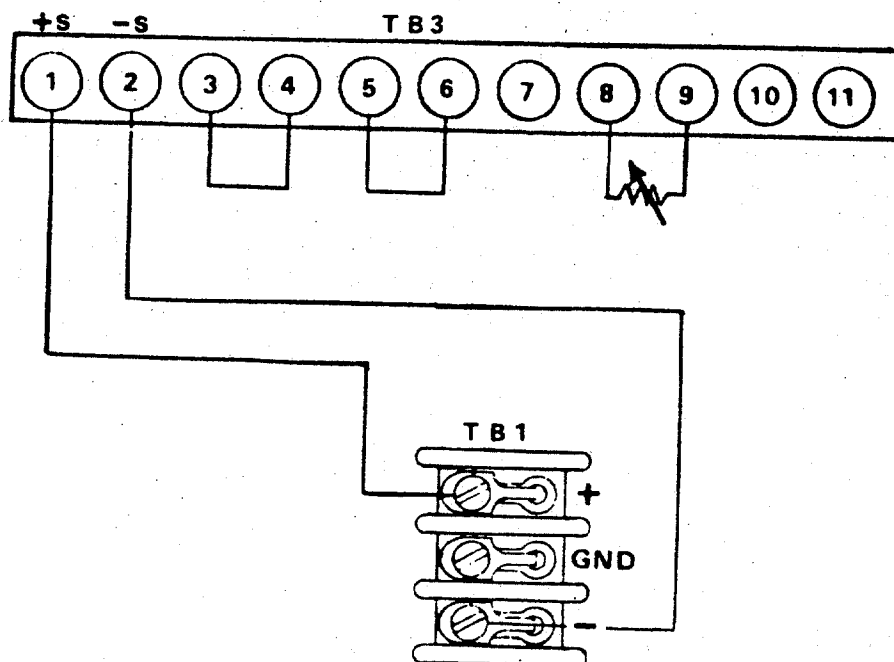

Figure 3-6 Current Mode Programming Connections
3.3.1 Resistance Programming Current Mode (Figure 3-6)